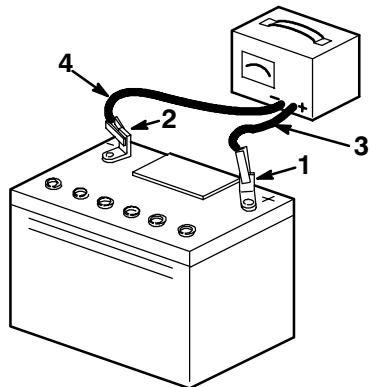

Figure 19
4. When the battery is fully charged, unplug the charger from the electrical outlet, then disconnect the charger leads from the battery posts (Fig. 19).